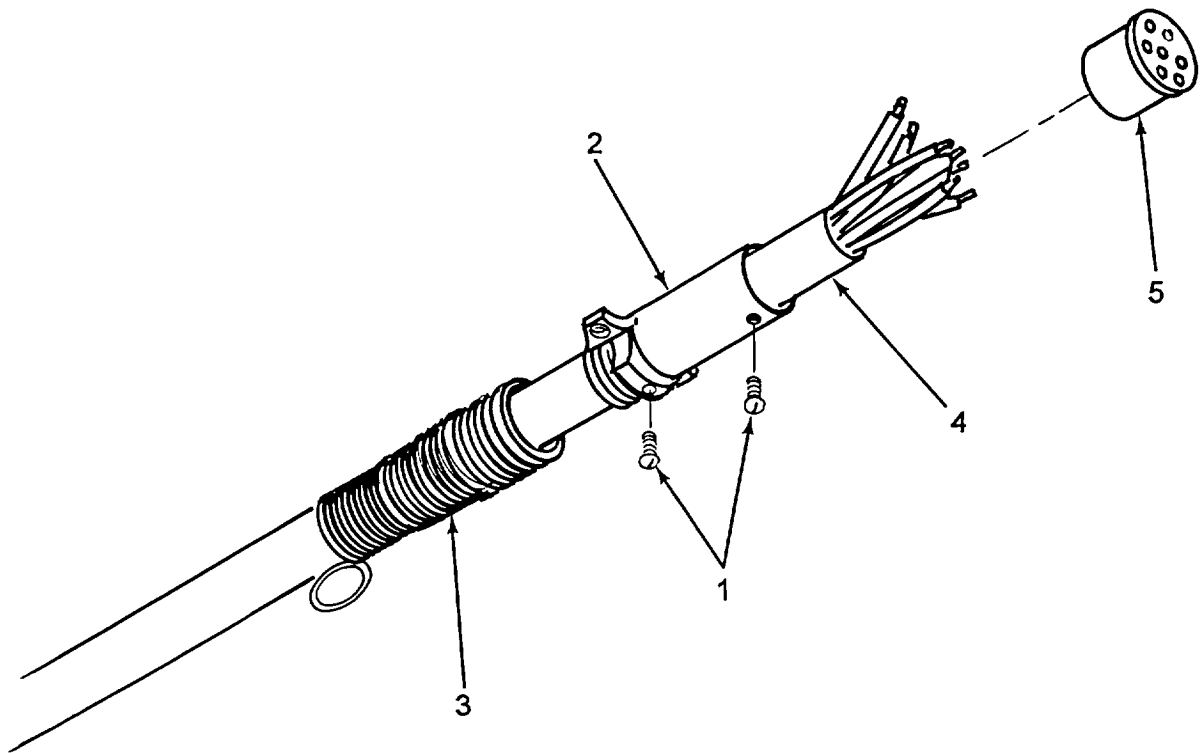

Figure 5-29. Intervehicular Wiring Harness
b. Disassembly. (Refer to Figure 5-29.)
- (1) Remove two screws (1) from each connector housing (2).
- (2) Slide connector housing (2), with spring (3) back on cable (4).
- (3) Disconnect individual wires of cable (4) from connector (5).
- (4) Remove connector housing (2) and spring (3) from cable (4). Unscrew spring (3) from connector housing (2).
a. Removal. (Refer to Figure 5-29.)
- (1) Tag and disconnect wires from ending points in voltage reducer box (1).
- (2) Tag and disconnect plugs from lights and markers.
- (3) Remove nine screws (2), nine lock-nuts (4) and nine cable clamps (5) along with trailer wiring harness (6) from frame (7).